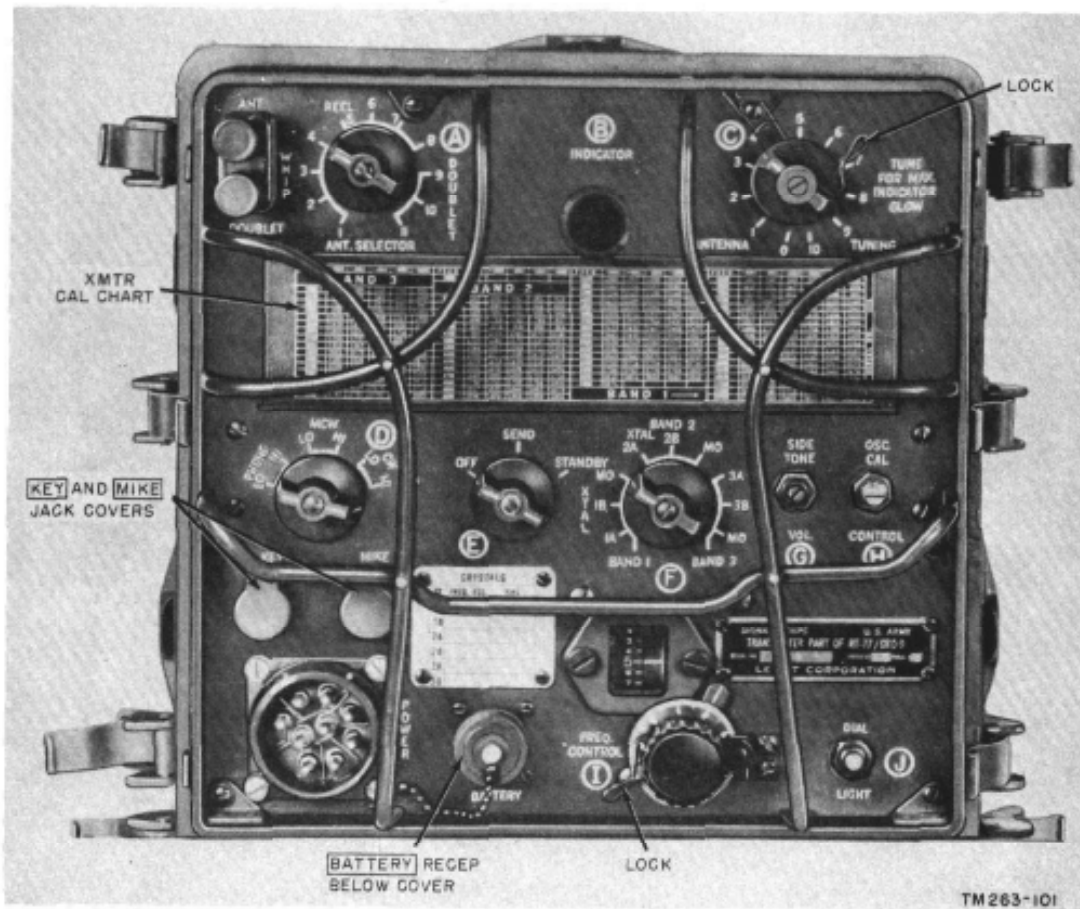

Figure 9. Transmitter section of radio set.
10. Description of Transmitter (fig. 9)